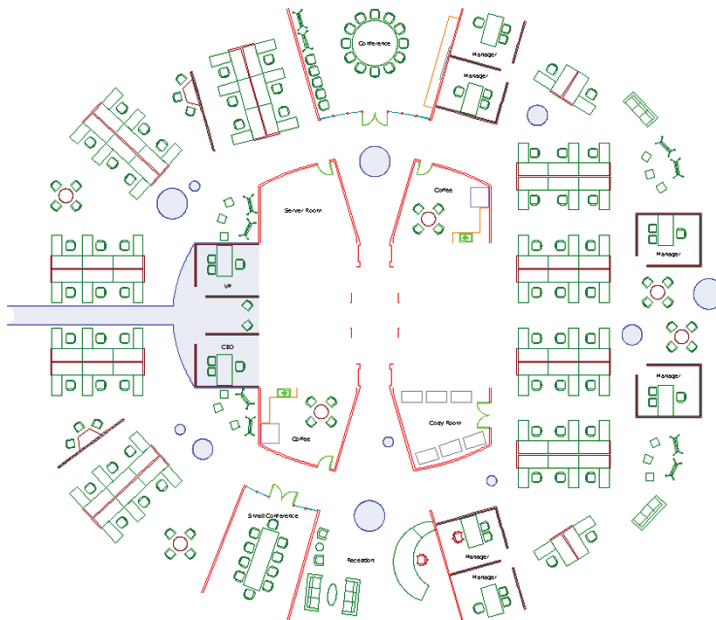

FIGURE 9.25 Tenant improvement floor plan
2. Return to the book's web page, browse to Chapter 9, get the file Ch9-F.dwg, and open it. Figure 9.25 shows the objects owned by the tenant.